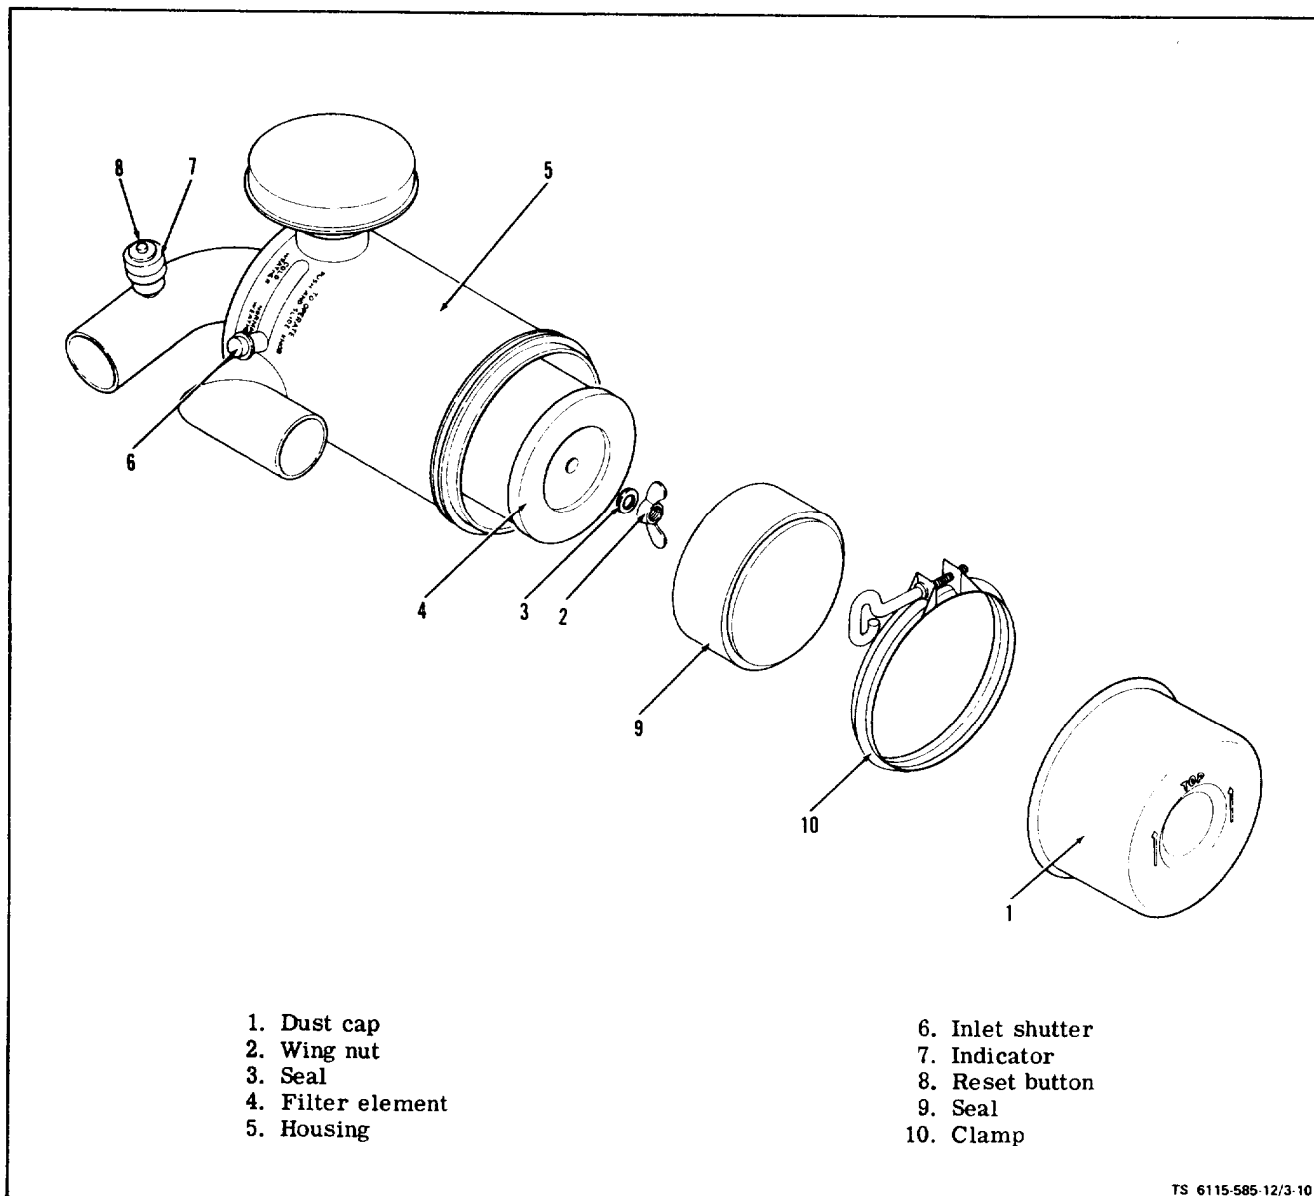
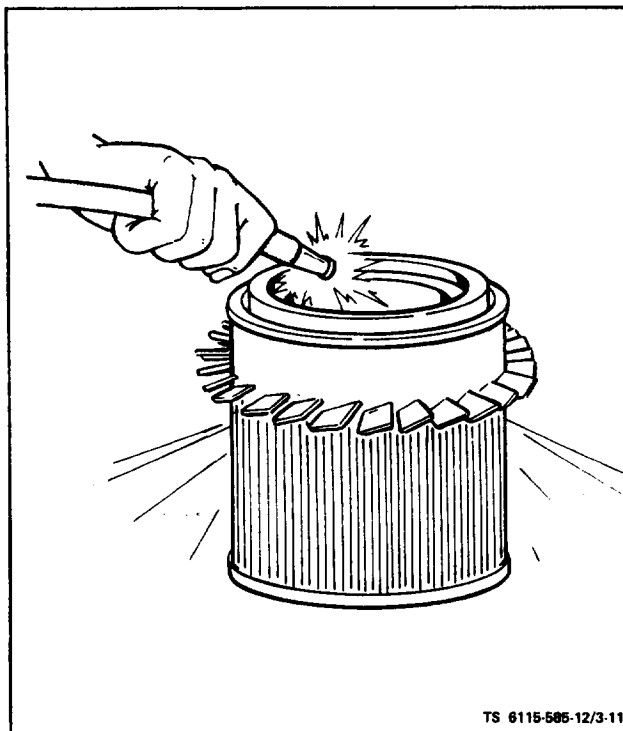

Figure 3-10. Air Cleaner Assembly
Figure 3-11. Cleaning Air Filter Element
(2) Bracket Assembly. Inspect bracket assembly (1) to see that it is securely fastened to generator housing (2). Check that capscrews (3) and lockwashers (4) which attach bracket to generator housing, and three spacers (5) are in place.
(3) Inlet Shutter (see figure 3-10). Check inlet shutter (6) to see that it slides easily from COLD WEATHER to NORMAL WEATHER position and back.
(4) Air Flow Indicator (see figure 3-10). Check air flow indicator (7) for dirt, grease, physical damage, or if the red flag is visible.
(1) Dust Cap (see figure 3-10). Every 100 operating hours (more frequently in dusty areas) service dust cap (1) by removing cap from air cleaner housing (5), removing rubber seal (9), and cleaning out any dirt or debris. The clamp (10) is loosened to remove dust cap and seal.
(2) Air Cleaner Element (see figure 3-10). Every 12 months, 1000 operating hours, or when red warning on air flow indicator becomes visible, whichever comes first, clean or replace air cleaner element (4). To remove the element remove dust cap (1) and seal (9). Remove wing nut (2), seal (3) and remove element (4). To clean element, direct dry clean air up and down pleats on the inside of the element. (See figure 3-11.) If element is very dirty, wash it by soaking in mild detergent and water. Soak for fifteen minutes or more. Rinse element thoroughly with clean water from hose (maximum pressure 40 psi). Air dry completely a minimum of 24 hours before re-using. Do not dry with compressed air or heat over 150°F (66°C).
(1) Air Cleaner Element. Slide element (4, figure 3-10) over stud in housing (5), install seal (3) on wing nut (2) and secure element with wing nut (2). Hand tighten wing nut. Install seal (9) and dust cap (1). Be certain "Top" on dust cap faces up. Retighten clamp (10) to secure dust cap. Depress reset button (8) to reset indicator (7).